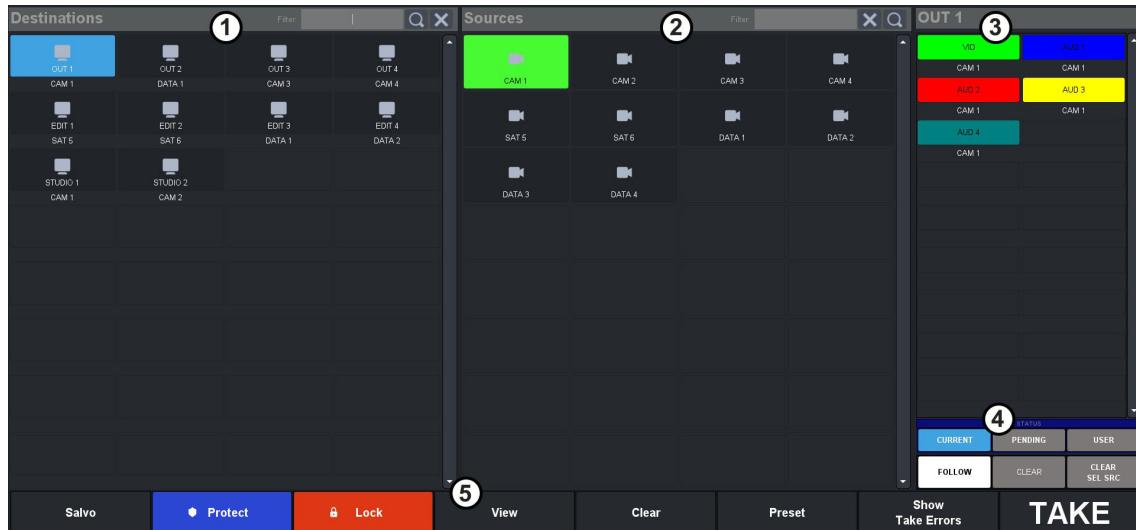

Figure 61 Example of the Default Push Button Soft Panel — Portrait
Figure 61 is an example of a Push Button soft panel set to portrait.
- Portrait — a horizontal layout; the panel is taller than it is wide. (Figure 61)